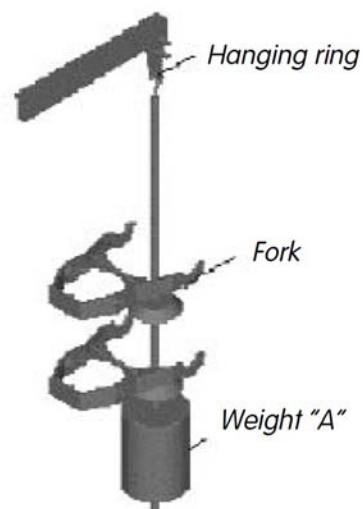
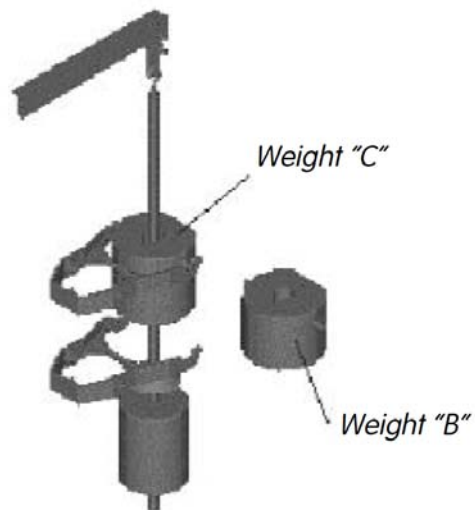

Figure 3-6 Installation of hanger rod and weight A
Figure 3-7 Installation of weights B and C
6. Carefully take out of the deadweight hanger rod, put deadweight A at the bottom of hanger rod and secure it with two screws. Now you can attach the hanger rod on the ring at the end of the power lever as **Figure 3-6** illustrates. Finally, insert other two deadweights on the hanger rod carefully and use the studs to hang the deadweights onto the fork slots, as **Figure 3-7** illustrates.